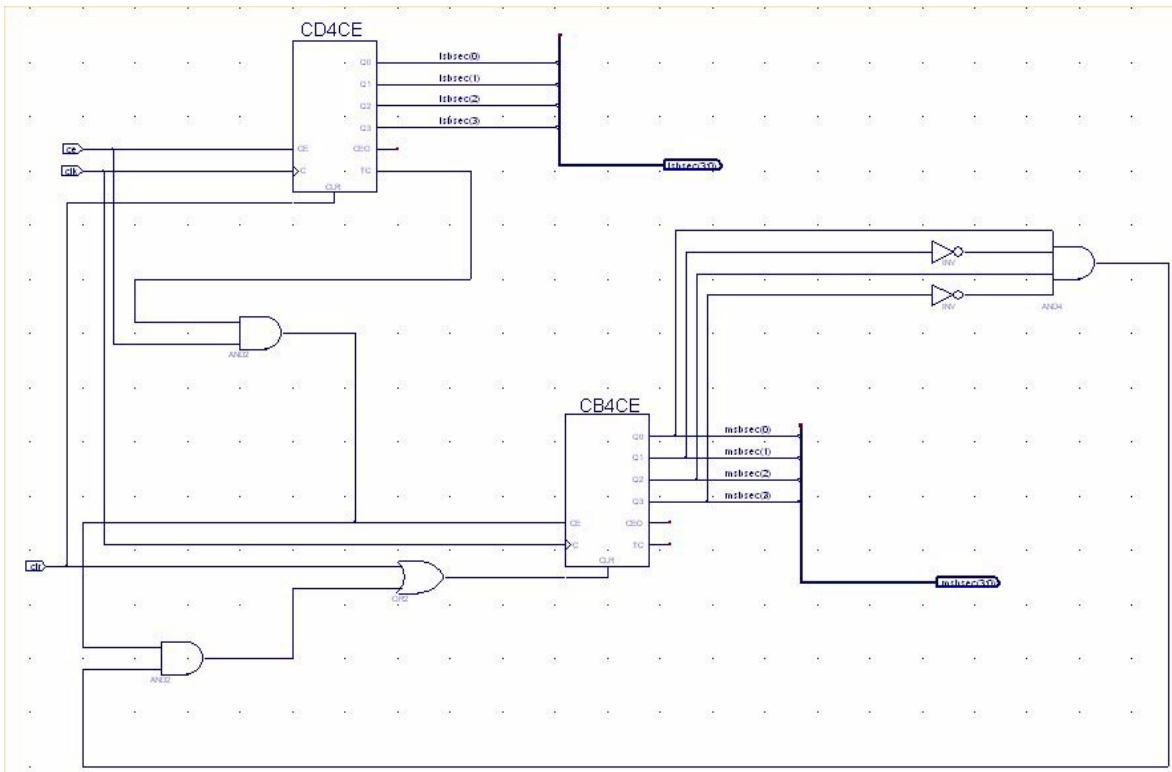

Figure 3-8: Completed CNT60 Schematic
4. Move the symbol outline to the location shown in Figure 3-8 and click the left mouse button to place the object.
5. Place the second AND2 symbol on the schematic by moving the cursor with attached symbol outline to the desired location and click the left mouse button. See Figure 3-8.
Follow the steps above in “Adding Components to CNT60” to place the CD4CE, OR2, CB4CE, INV, and AND4 components on the schematic sheet. Refer to Figure 3-8 for placement of all components.
Draw the nets to connect the remaining components as shown in the Figure 3-8. To specify the shape of the net:
8. Repeat Steps 1 through 7 for the LSBSEC(3:0) bus, referring to Figure 3-8 for placement of the wire and the bus name.
9. Compare your CNT60 schematic again with Figure 3-8 to ensure that all connections are made properly.